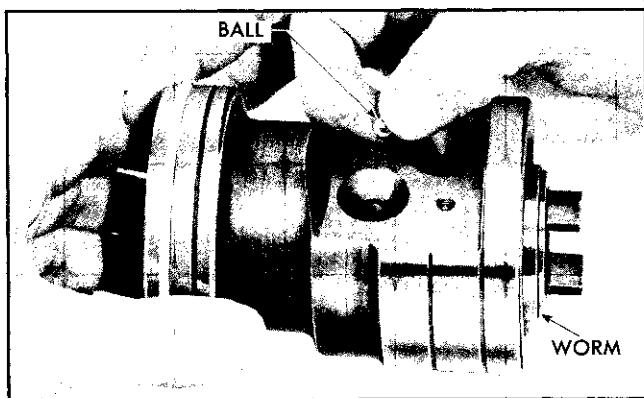

Fig. 9-64 Loading Rack Piston Nut
2. Insert worm into rack-piston nut to bearing shoulder (Fig. 9-64).